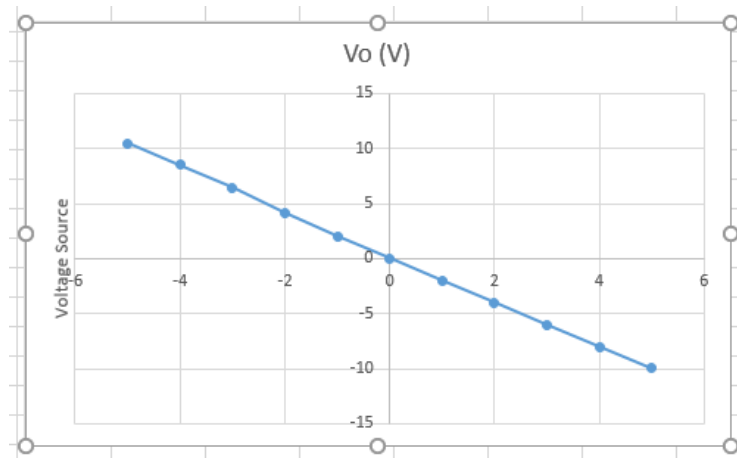

Figure 4: The best fit graph of V_o vs V_s
4. With the table intact, I was able to draw the best-fit straight line of V_o vs V_s , Figure 4, from my table. The slope of the graph was -2, which coincidentally happens to be the theoretical gain.